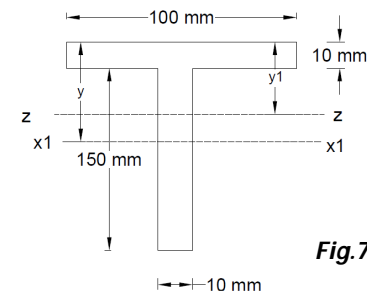

Fig.7
6. (a) Find the shape factor for the Fig.7 given below: